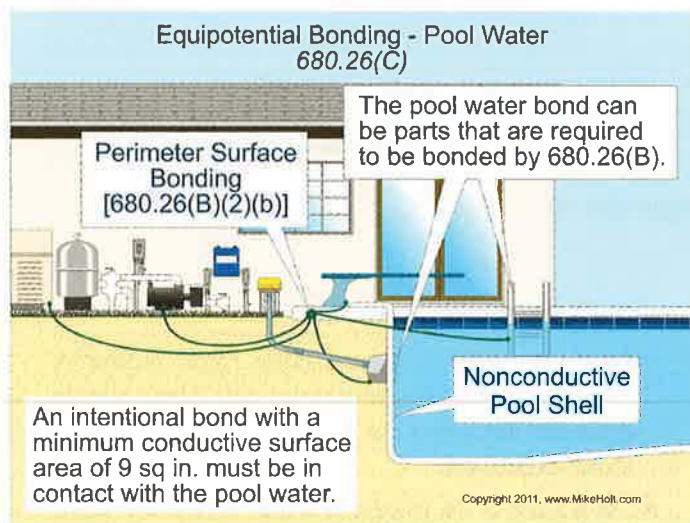

Figure 680-36
(C) Pool Water. Pool water must have an electrical connection to one of the bonded parts described in 680.26(B) or an intentional bond of a minimum conductive surface area of 9 sq in. **Figure 680-36**